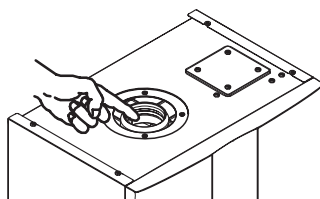

Fig. 7.6
**Fill the built in condensate trap by removing the flue elbow and pouring a cupful of water into the flue outlet (Fig. 7.6).**